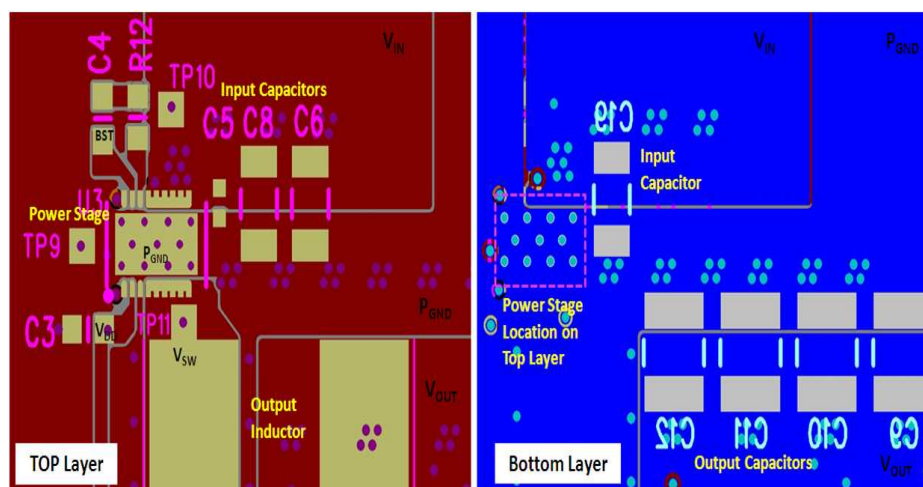

Figure 16. Recommended PCB Layout (Top Down View)
- The placement of the input capacitors relative to V_{IN} and P_{GND} pins of CSD95375Q4M device should have the highest priority during the component placement routine. It is critical to minimize these node lengths. As such, ceramic input capacitors need to be placed as close as possible to the V_{IN} and P_{GND} pins (see Figure 16). The example in Figure 16 uses 1×1 nF 0402 25 V and 3×10 μF 1206 25 V ceramic capacitors (TDK Part # C3216X5R1C106KT or equivalent). Notice there are ceramic capacitors on both sides of the board with an appropriate amount of vias interconnecting both layers. In terms of priority of placement next to the Power Stage C5, C8 and C6, C19 should follow in order.
- Use the smallest drill size allowed in your design. The example in Figure 16 uses vias with a 10 mil drill hole and a 16 mil capture pad.